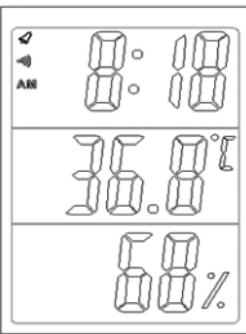

Fig. 5
1. Press the **MODE** button to advance to turning the alarm on/off hours and use the **ADJ** button to change the value (see Fig. 5).